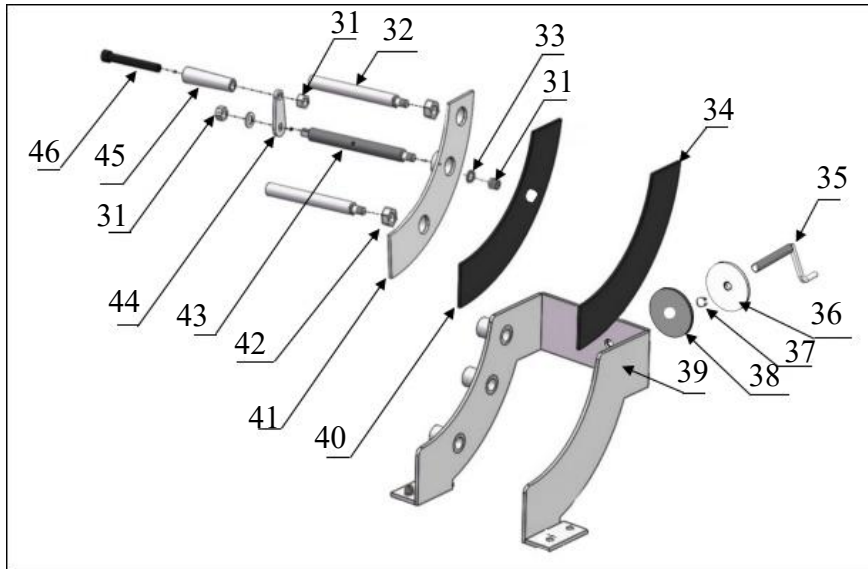

Fig.11
3. Exploded view of wheel vise (See Fig 11)